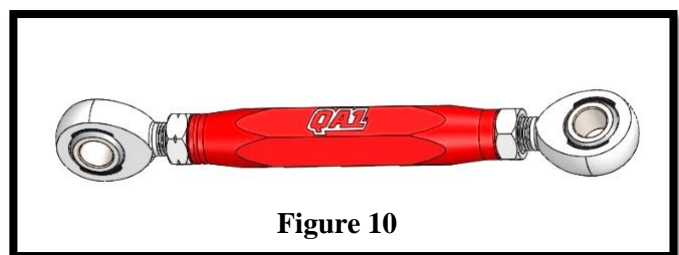

Figure 10
17. Thread the right-hand jam nuts onto the remaining four rod ends and the left-hand jam nuts onto the left-hand rod ends. These will be used to assemble the upper trailing arms. **(Figure 10)**
18. Using anti-seize on the threads, thread the right-hand rod ends into the right-hand threaded end of the red anodized upper trailing arm. Thread the left-hand rod ends into the left-hand threaded end of the trailing arm. **(Figure 10)**